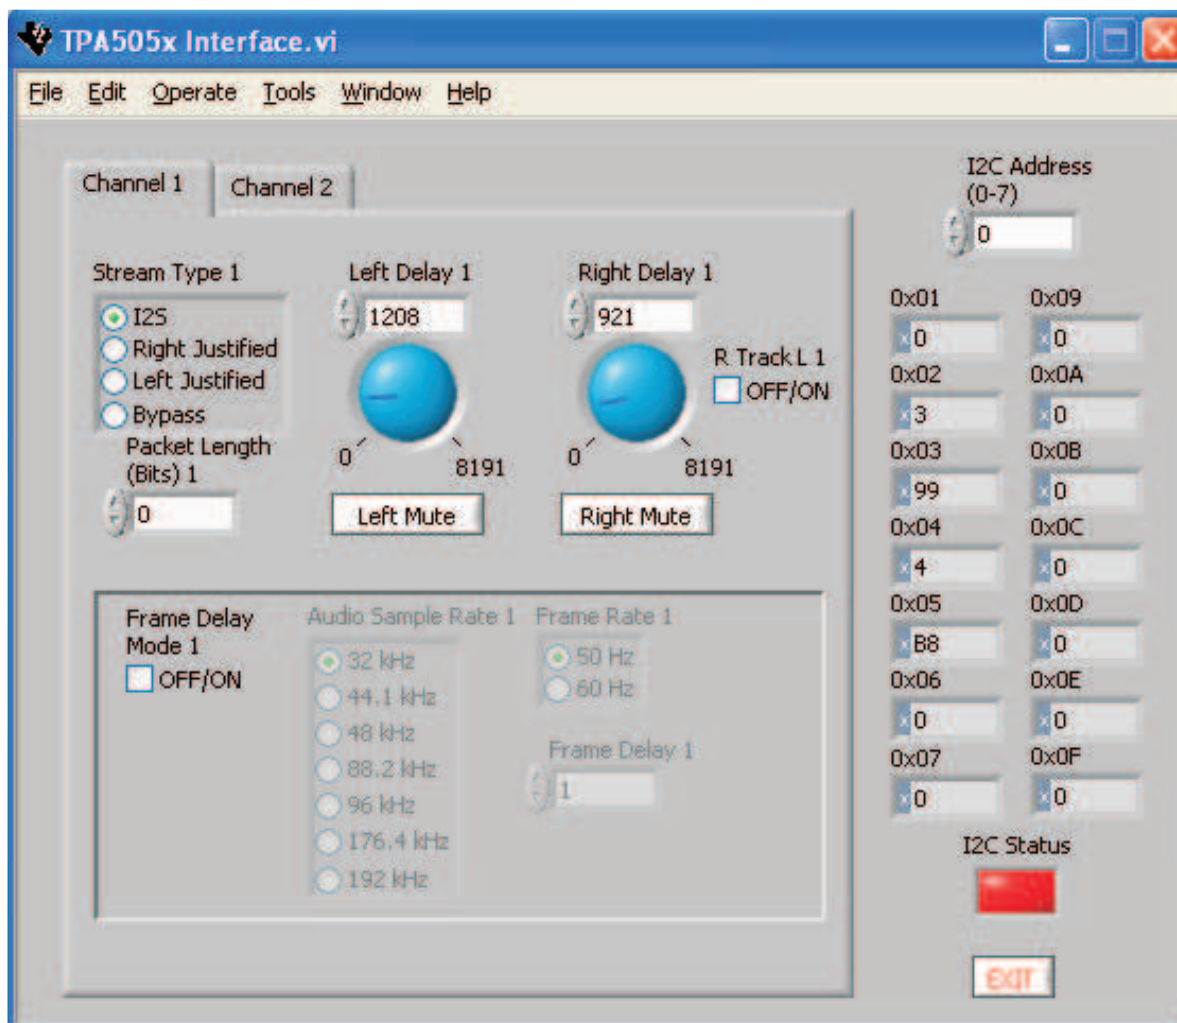

Figure 4. TPA5051 in I2S Mode – Unable to Communicate
8. The *I2C Status* display at the bottom right indicates whether the device and the computer are communicating properly. A red status bar indicates a problem. A green status bar indicates the device and computer are talking (see Figure 4). Possible solutions to the red status bar problem are to depress and release the **reset** button on the TI Input USB board, check to see that all cables are properly connected, restart the TPA5051 GUI, remove and then re-insert the USB cable into the computer, reboot the computer, or re-install the software.